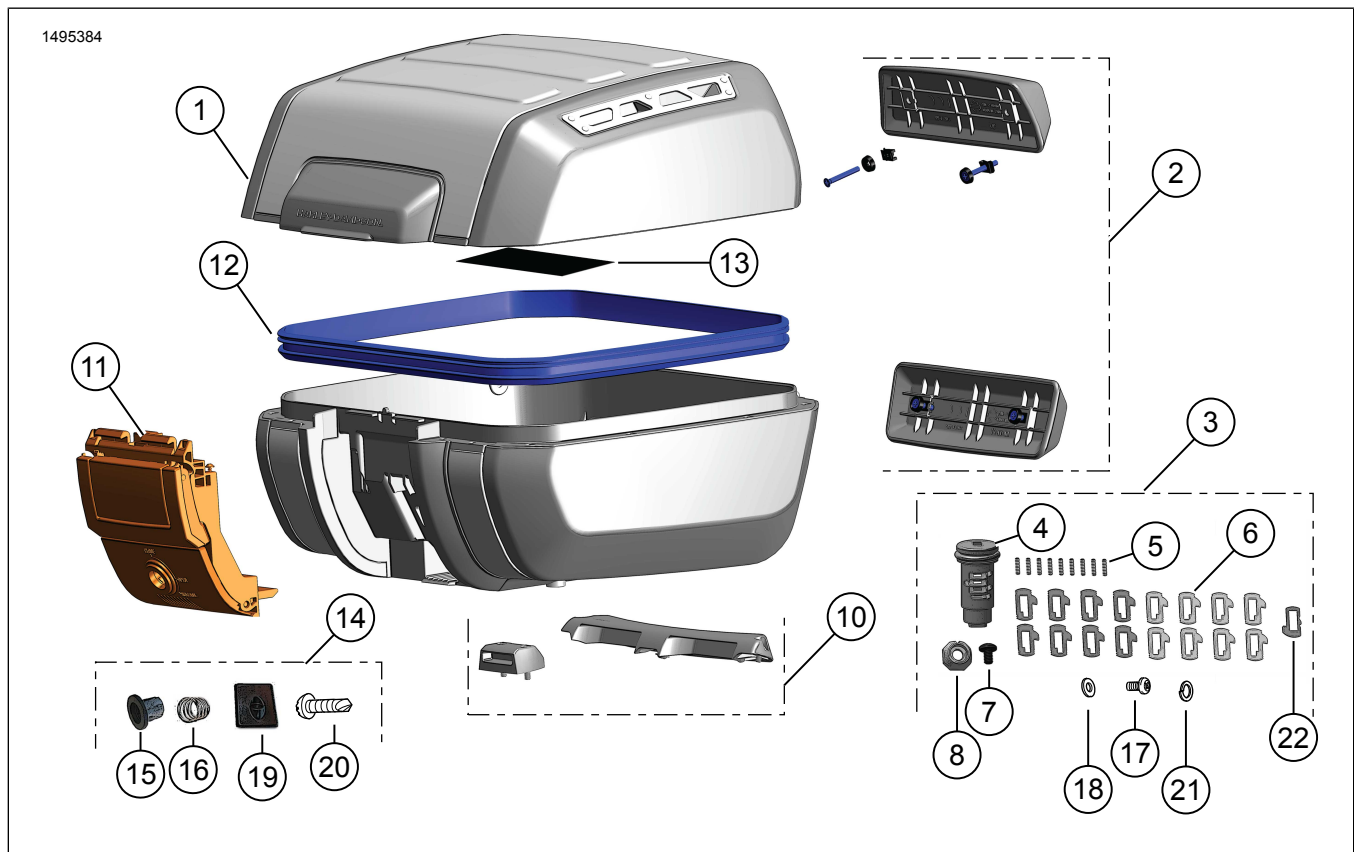
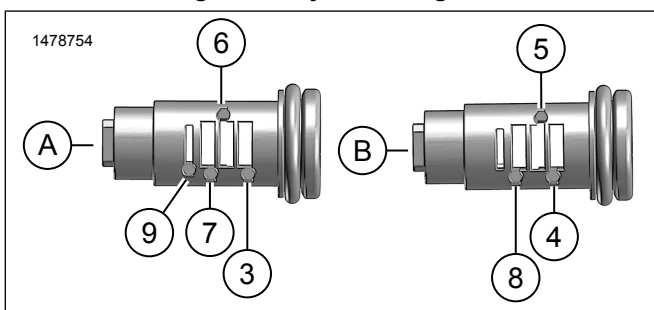

Figure 1. Kit Contents: Detachable Top Case
Figure 4. Spring and Tumbler Install Locations (Typical)
5. See Figure 4. Install tumbler springs (5), see Figure 1, into holes at stations 3,6 and 7 on side (A) of cylinder sub-assembly.
6. See Figure 4. Install tumblers (6), see Figure 1, #11-14 in stations 3,6 and 7 per tumble numbers determined in Table 3.
7. See Figure 4. Install tumbler springs (5), see Figure 1, into holes at stations 4,5 and 8 on side (B) of cylinder sub-assembly.
8. See Figure 4. Install tumblers (6), see Figure 1, #21-24 in stations 4,5 and 8 per tumble numbers determined in Table 3.